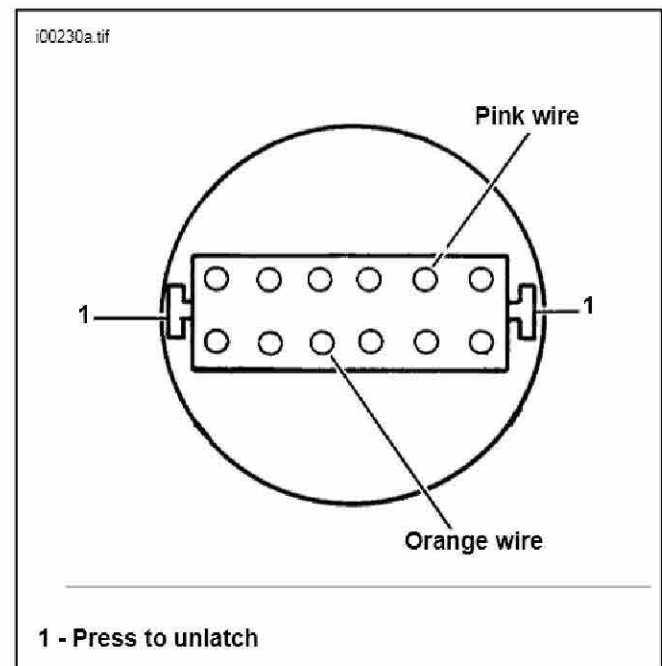

Figure 6. Tachometer Connections - 1992 & 1993
- See Figures 6, 6A, 8 and 9. Push the sockets of the orange and pink tachometer wires into the socket connector boot at the locations shown. Install the sockets in the socket electrical connector at the proper locations; that is, orange-to-orange and pink-to-pink. After pressing each socket terminal into place, give the wire a slight tug, to be sure socket is properly seated.